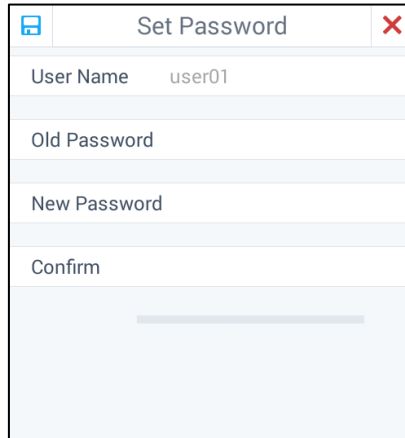

Figure 4.70 Editing the User Account by the Operator
1. Click the user account on the **User Management** interface for the operator. The **Set Password** dialog box pops up as shown in Figure 4.70.